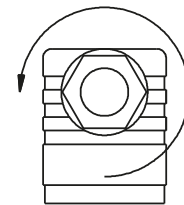

Fig. 3
- ↪ Loosen the screwed cable gland M16x1.5 (→ Fig. 3).